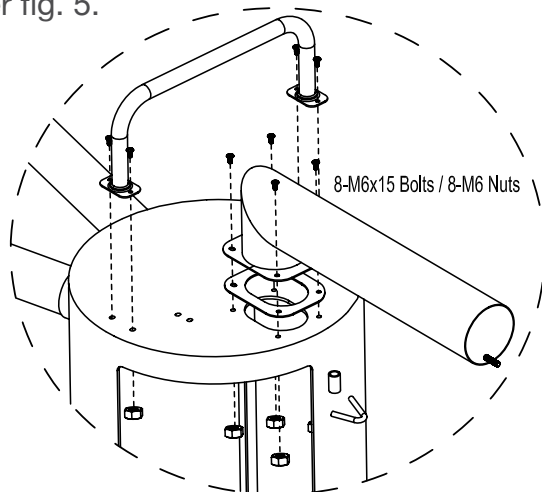

fig. 5
- Attach the smoke stack (6) to the end of the cooking chamber (9) by fitting the sealing gasket (7) and using 4-M6x15mm bolts and 4-M6 nuts.
- Attach side handle (8) to the same end of the cooking chamber (9) using 4-M6x15mm bolts and 4-M6 nuts as per fig. 5.